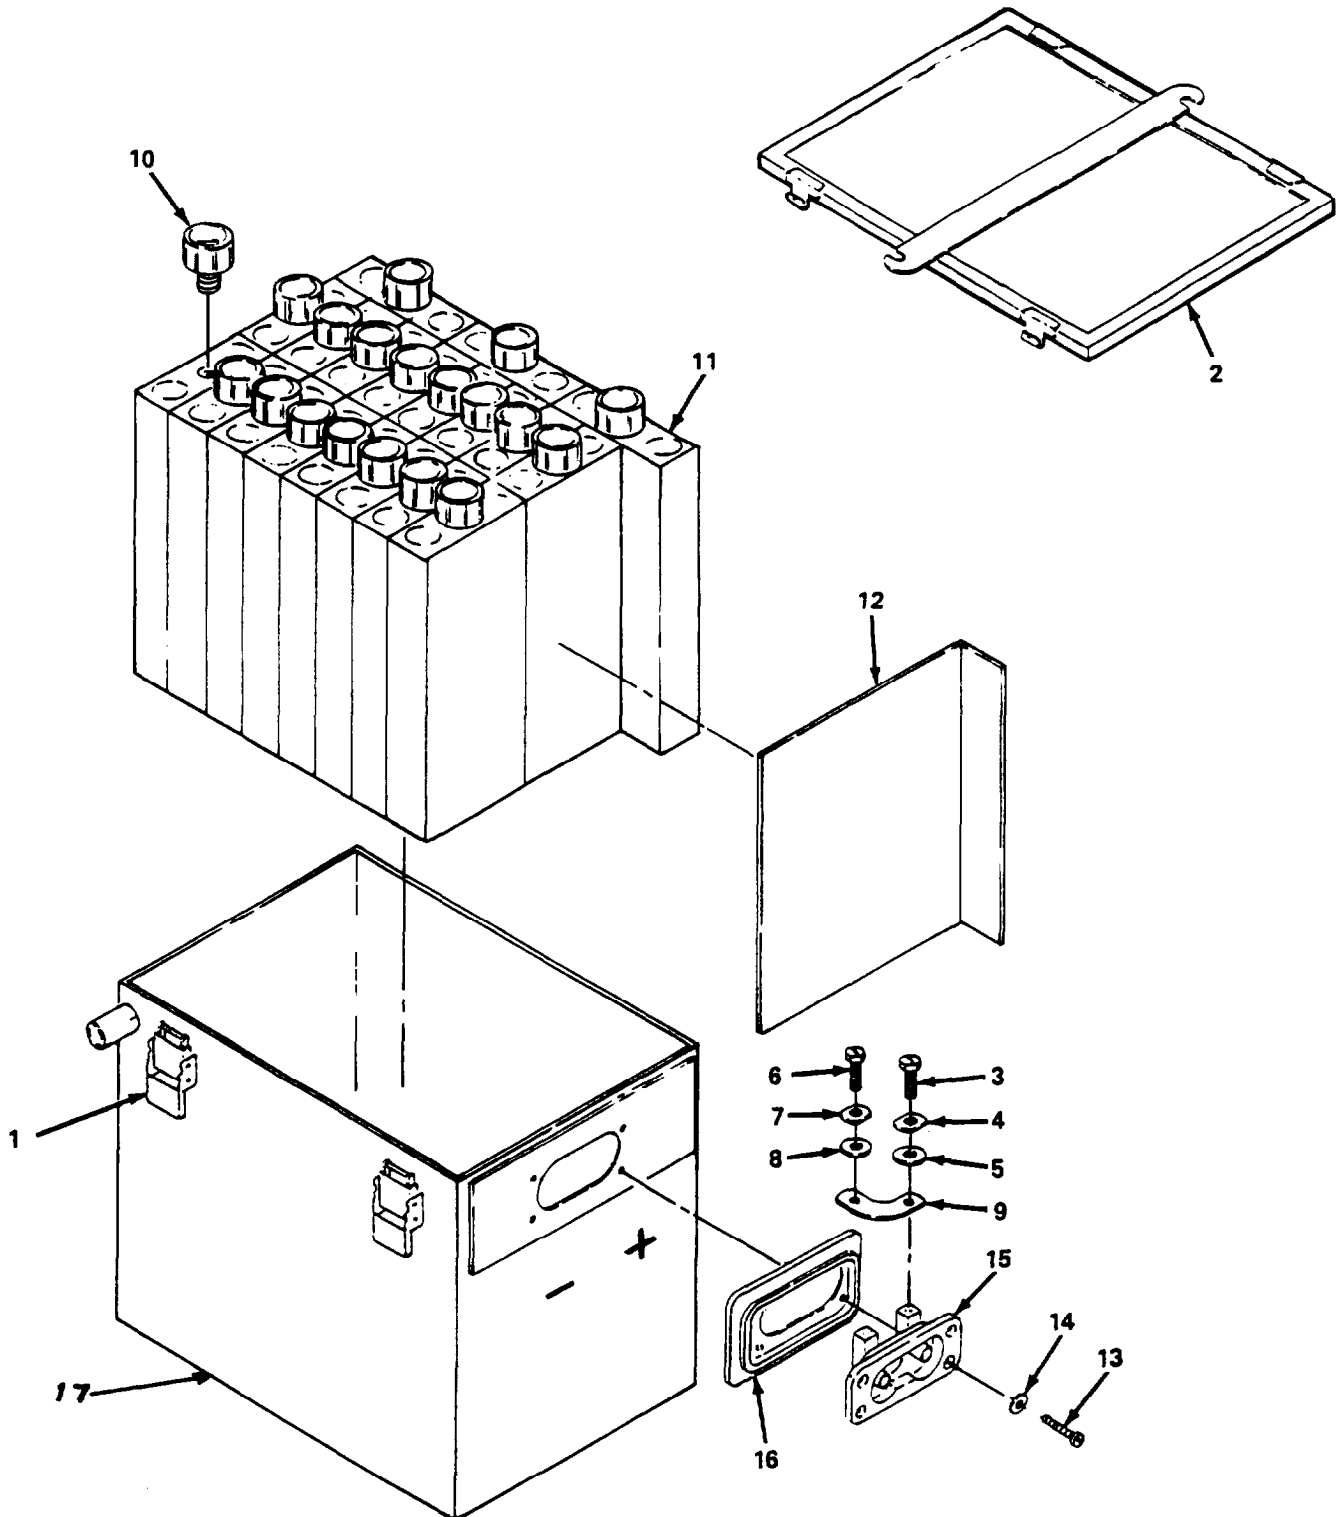

Figure 3-14. Battery BB-434/A Disassembly.
a. Disassembly/Reassembly (fig. 3-14).
- (1) Unsnap four latches (1) and remove cover (2).
- (2) Discharge battery (para 3-10).
- (3) Remove screw (3), washer (4) and spring washer (5).
- (4) Remove screw (6), washer (7) and spring washer (8) and remove terminal link (9).
- (5) Repeat steps 3 and 4 as necessary and remove remaining terminal links.
- (6) Loosen but do not remove filler caps (10).
(1) Discharge battery (para 3-10).
(2) To remove any of the above items, refer to the exploded view (fig. 3-14) and the appropriate sections of paragraph 3-19a.